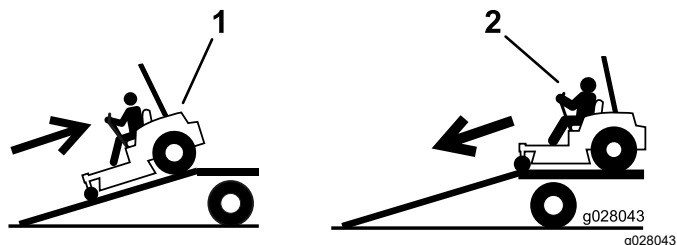

Figure 36
4. Back the machine up the ramp (Figure 36).